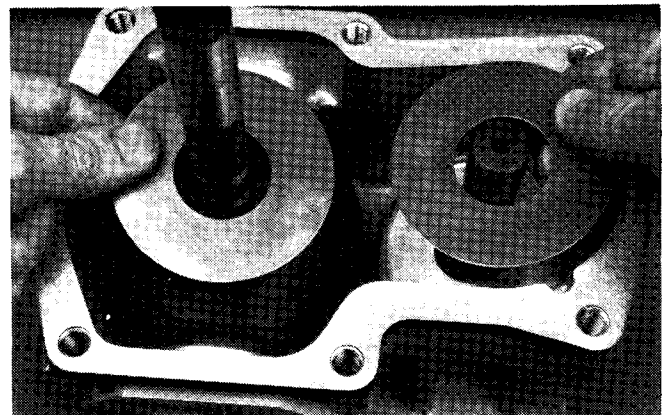

Figure 68
13. Coat thrust plates with petroleum jelly and install into housing and swashplate (Fig. 68). The thrust plates are reversible.